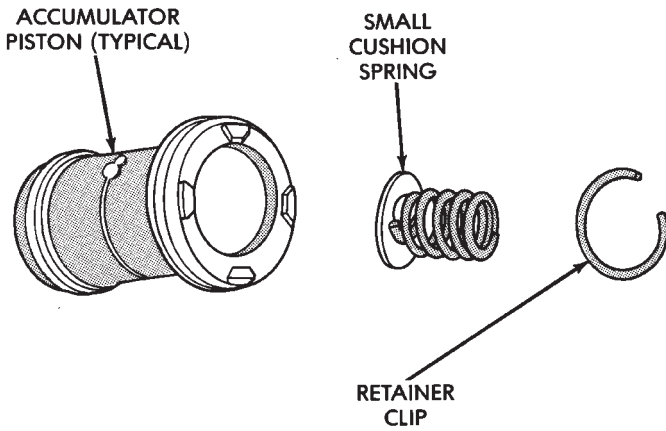

Fig. 28 Small Cushion Spring Retention
(5) If small cushion spring in any piston must be replaced, remove spring retainer clip and remove spring from piston (Fig. 28). A small hooked tool or small thin blade screwdriver can be used to remove clip. A thin wall, deep socket, or pin punch can be used to reseal clip after spring replacement.
(6) Install new O-ring seals on pistons. Lubricate seals and pistons and piston bores with transmission fluid.